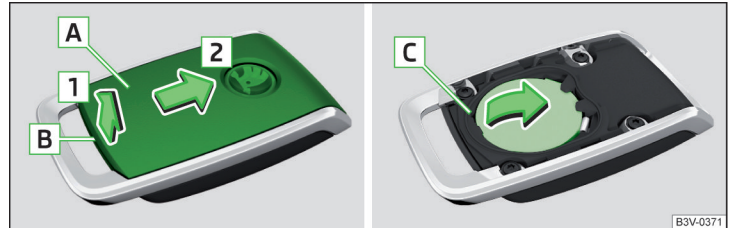

Fig. 345 Open the cover/remove the battery
- › Use a thin screwdriver to remove the cover **A** in the area **B** » Fig. 345.